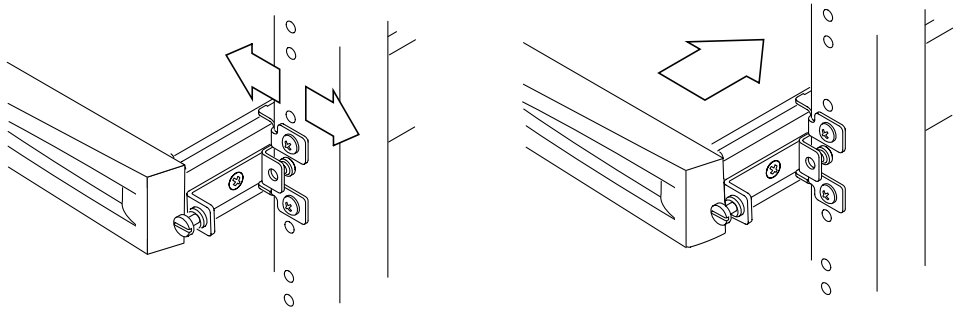

FIGURE 3-9 Adjusting the Mount and Tightening the Thumbscrew
13. Secure the captive screws on the front of the array into the front ear of each bracket on the front posts (FIGURE 3-9).